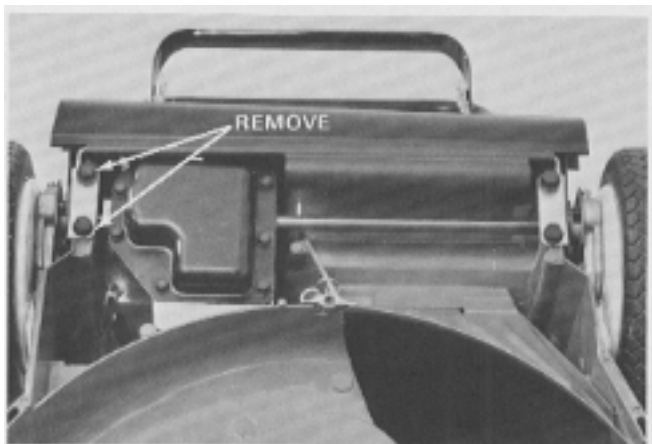

Figure 26
3. Remove the two flanged head self-tapping screws holding the left endcap to the housing. This allows the rear axle to be pulled out slightly, thereby providing clearance for removal of the gear selection control. See Figure 26.